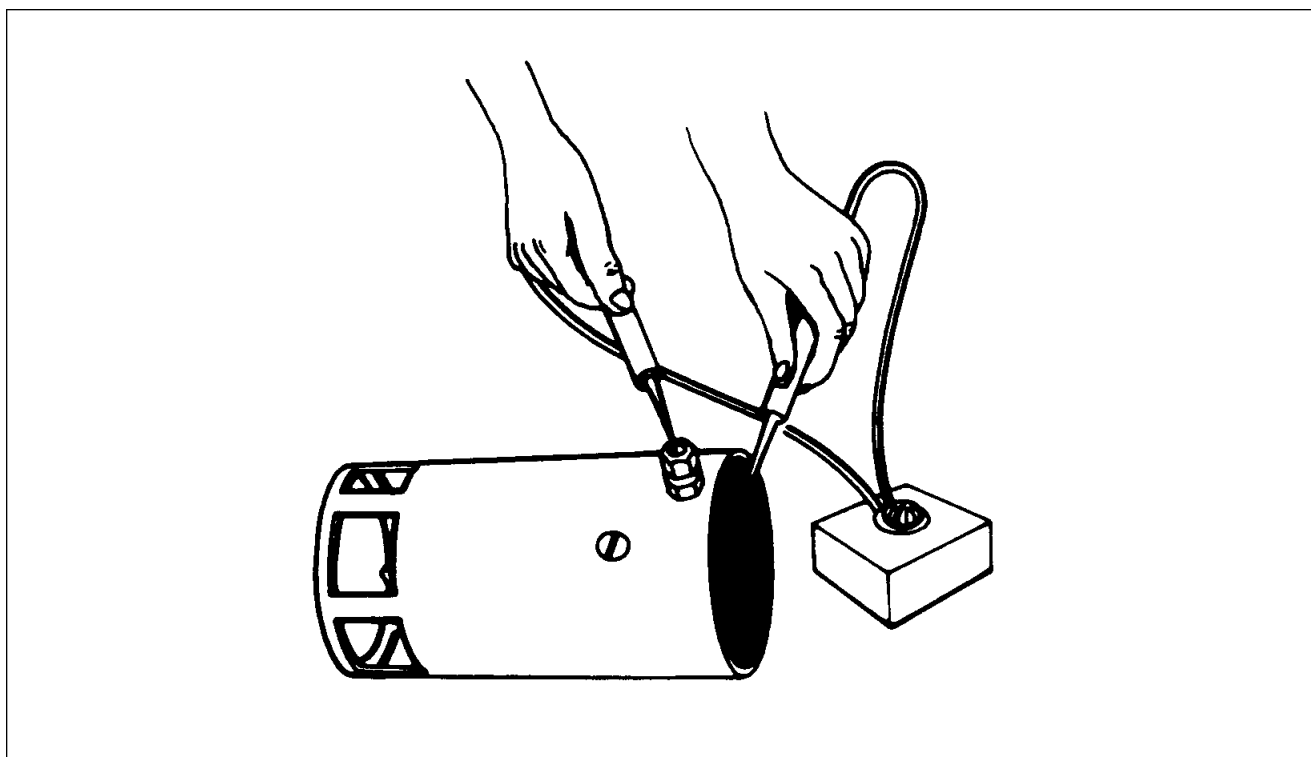

Figure 80-4. Testing Motor Field for Grounds
1. Check field coils for grounds (refer to figure 80-4) by placing one test probe on frame and other on starter terminal. Be sure brushes are not accidentally touching frame. If lamp lights, fields are grounded. Repair or replace.